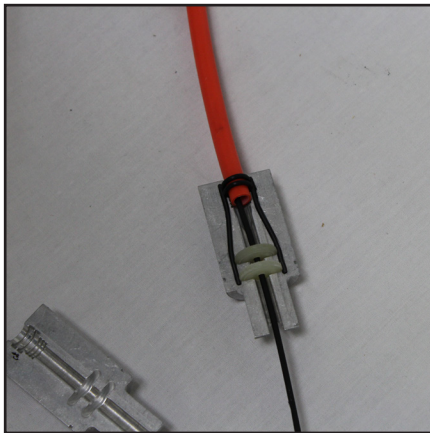

Figure 4. Position Micro Duct Properly in Duct Pack
- Place cable and seal into duct pack, then push cable into duct. (See figure 4)